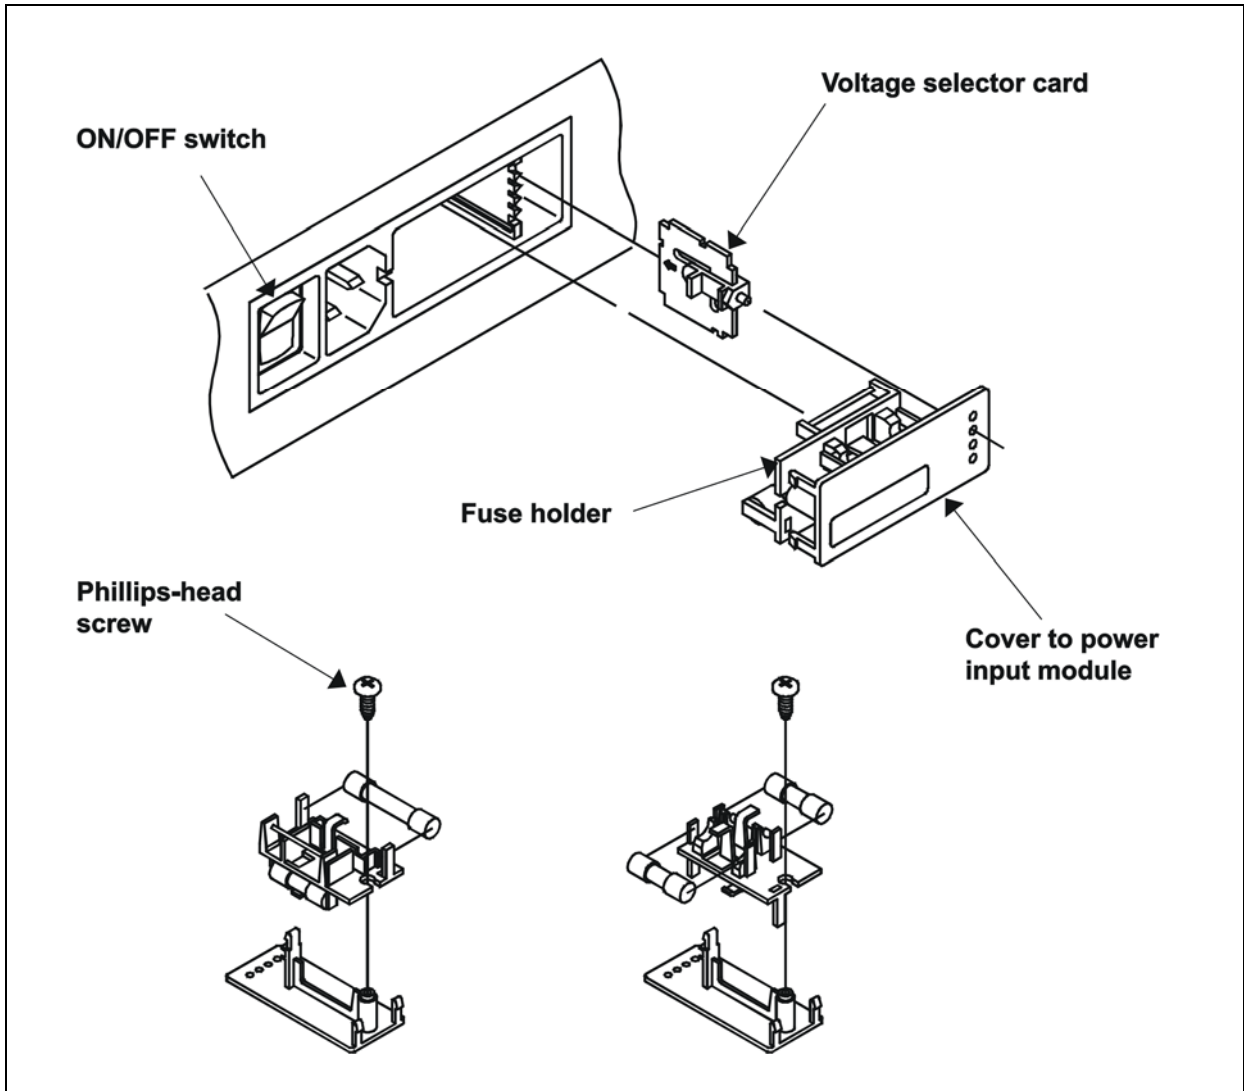

Figure 14: Power input module; accessing the voltage selector card and fuse holder
Refer to **Figure 14** on the next page for the following instructions:
3. Use the screwdriver to remove the Phillips-head screw that anchors the fuse holder to the inside of the cover. See **Figure 14**.